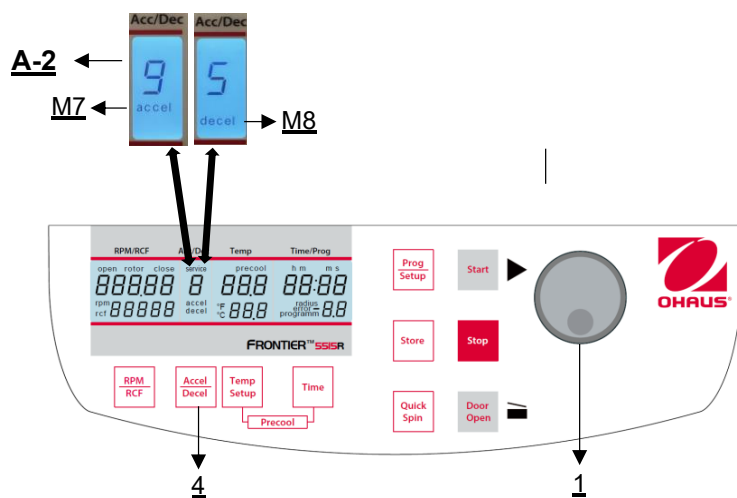

Figure 17
This function is activated through the key **"Accel/Decel"** (4) (see Figure 17).